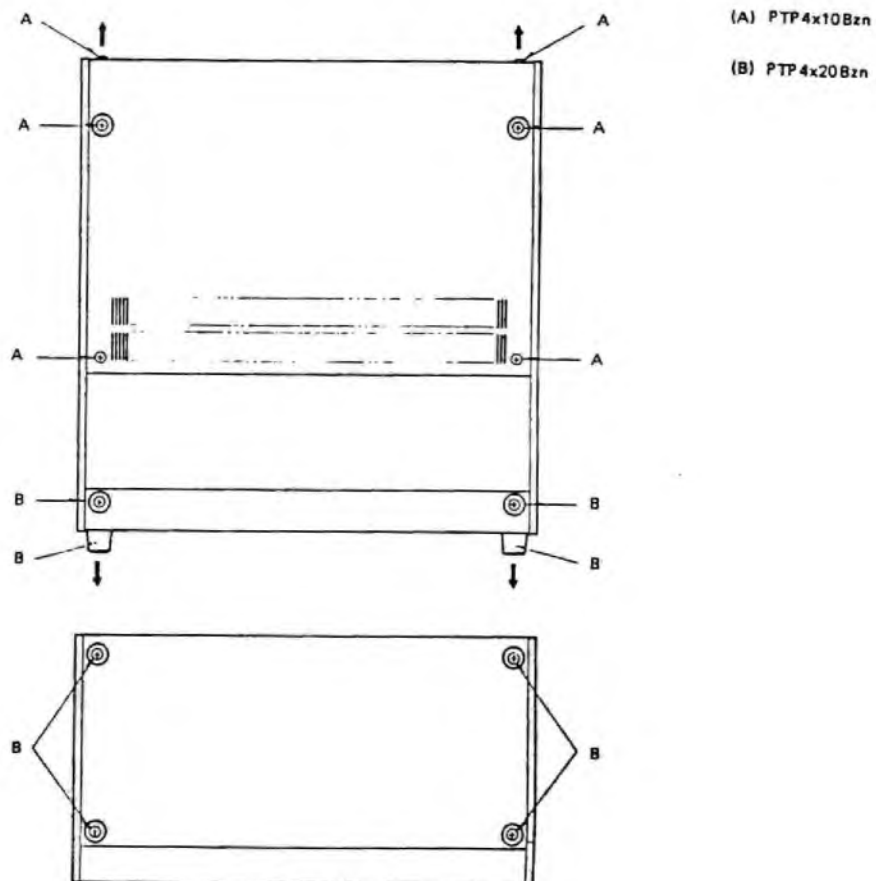

Fig. 6.1
6.1 REAR PANEL (Fig. 6.1)
- * Screw (A) - Four on the rear cover and two on the top are removed.
- * Screw (B) - Two on the rear lower side and four on the bottom are removed.
- * Adjusting of trim pots for METER CAL and REC CAL on the R/P AMP can be done from the bottom by removing the six screw (B) and removing the bottom cover.